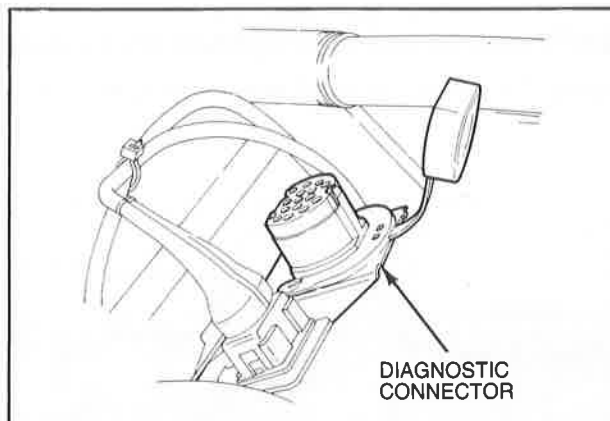

Figure 12 Diagnostic Connector
3. Open cover on diagnostic connector (Fig. 12) and connect adapter from Dynamic Timing Meter, Rotunda 078-00116, or equivalent.
3. Open cover on diagnostic connector (Fig. 12), and connect adapter from Dynamic Timing Meter, Rotunda 078-00116 or equivalent.